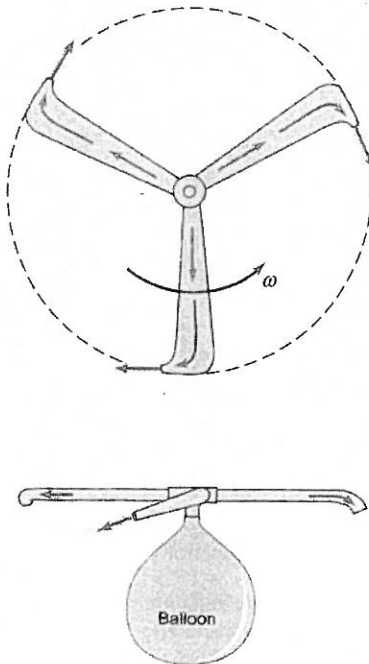

Figure P5.89
5.89 (See Fluids in the News article titled “Tailless Helicopters,” Section 5.2.4.) Shown in Fig. P5.89 is a toy “helicopter” powered